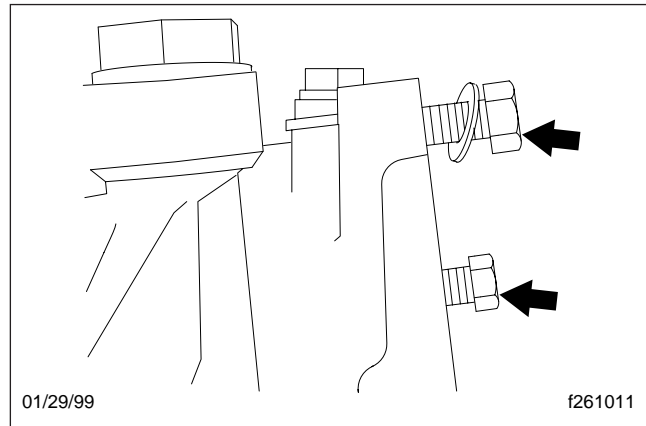

Fig. 12, Capscrews Left in the Timing Case
14. Remove the 16-mm transmission mounting cap-screws that attach the timing case to the bell housing. See **Fig. 12**.